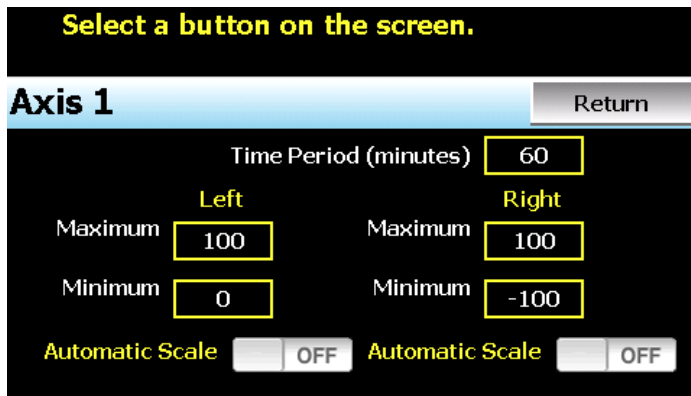

Fig. 68: Set Axis Time Period
- Once the channel and axis selections have been made, press the “Axis” button to adjust the time period and vertical axis ranges of the graph (Fig. 68).